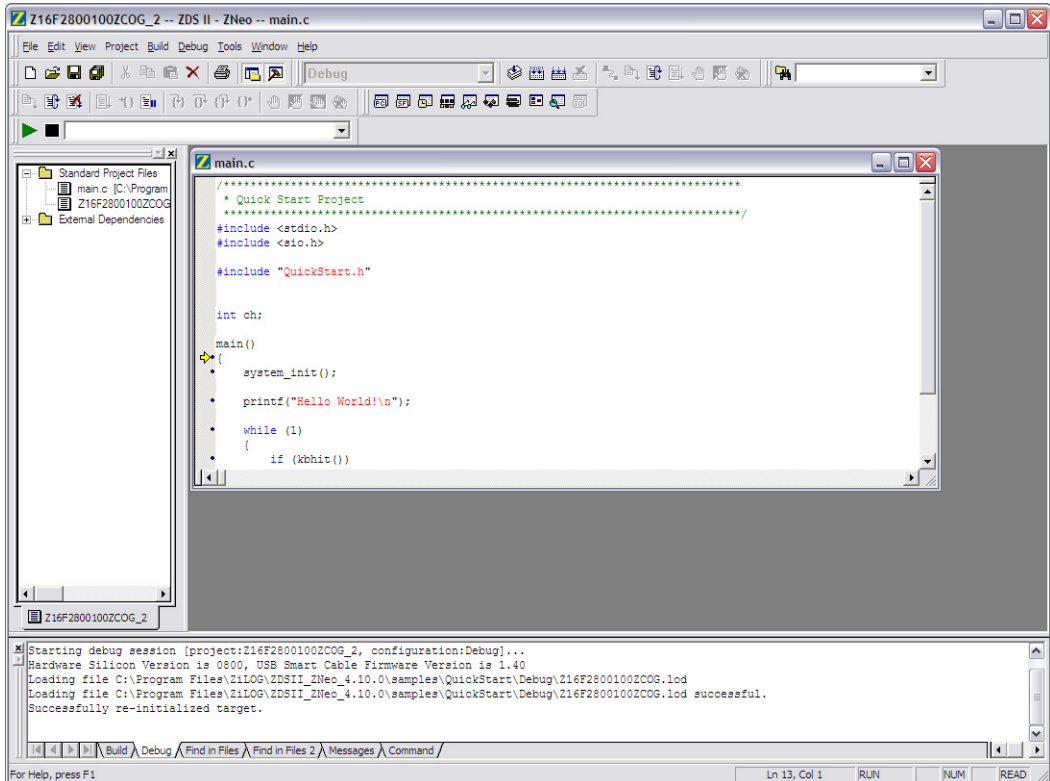

Figure 5. ZDS II Screen After Pressing GO
- Click **Go** to start the program. The screen changes as shown in Figure 5 on page 12.